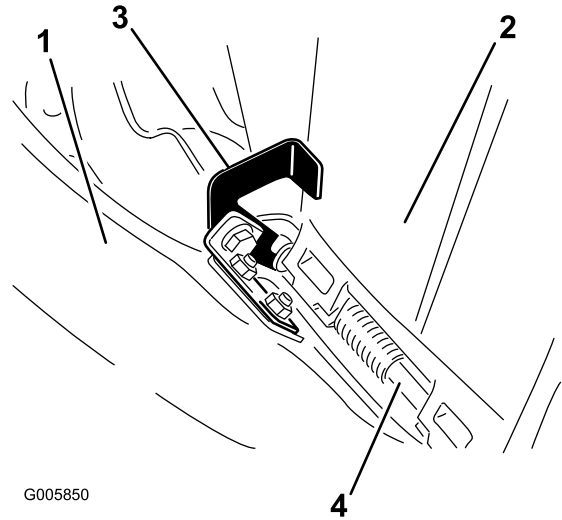

Figure 11
4. On the top of the chute, engage the hook shaped latch around pivot rod of the deflector assembly as shown in (Figure 11).